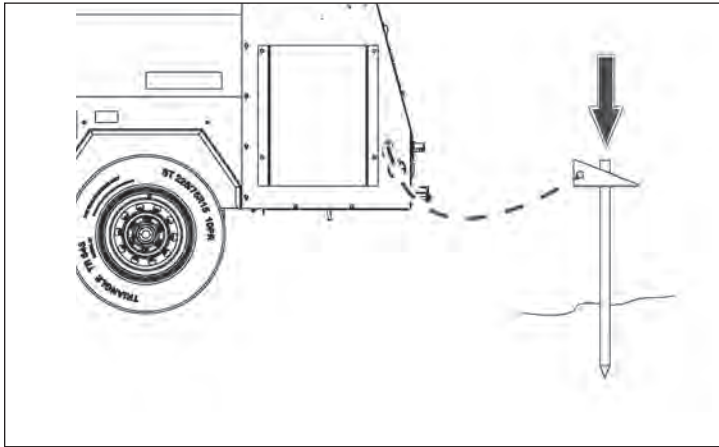

Figure 15
3. Find the ground lug at the left rear of the trailer chassis. See Figure 15. Locate a point on the ground not more than 5 feet (1.5 m) from the ground lug. Drive the ground rod into the earth at this point.